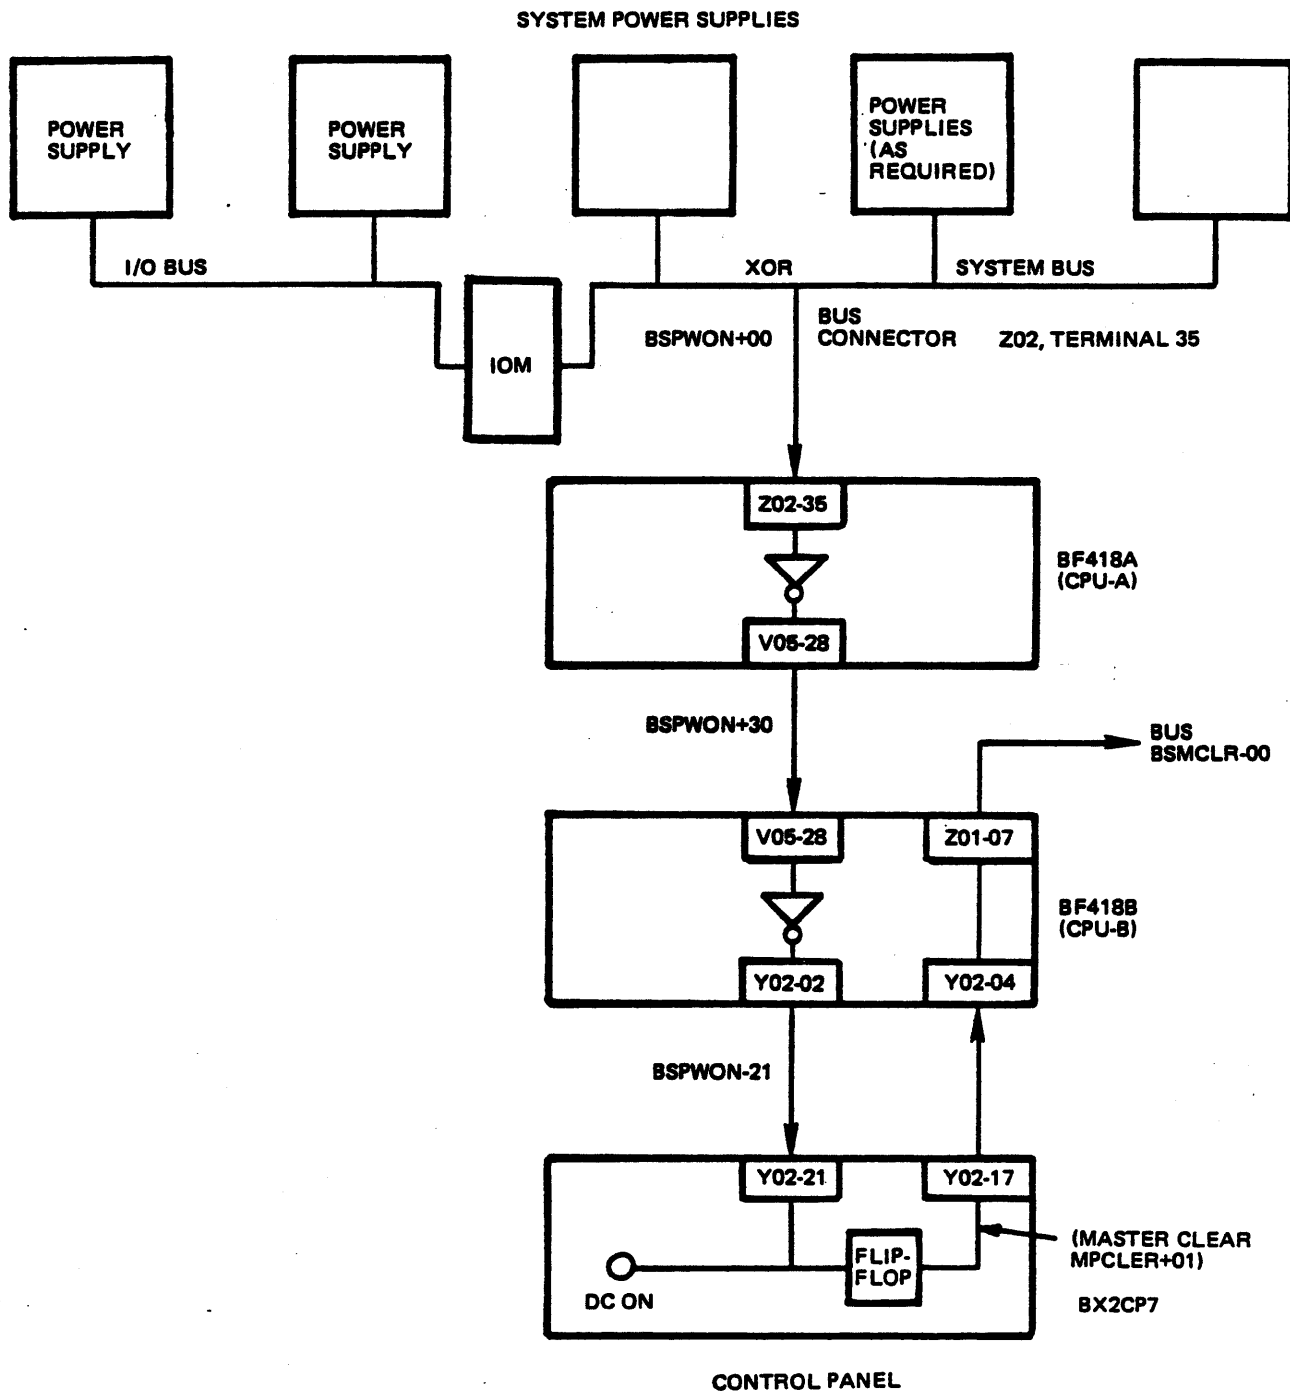
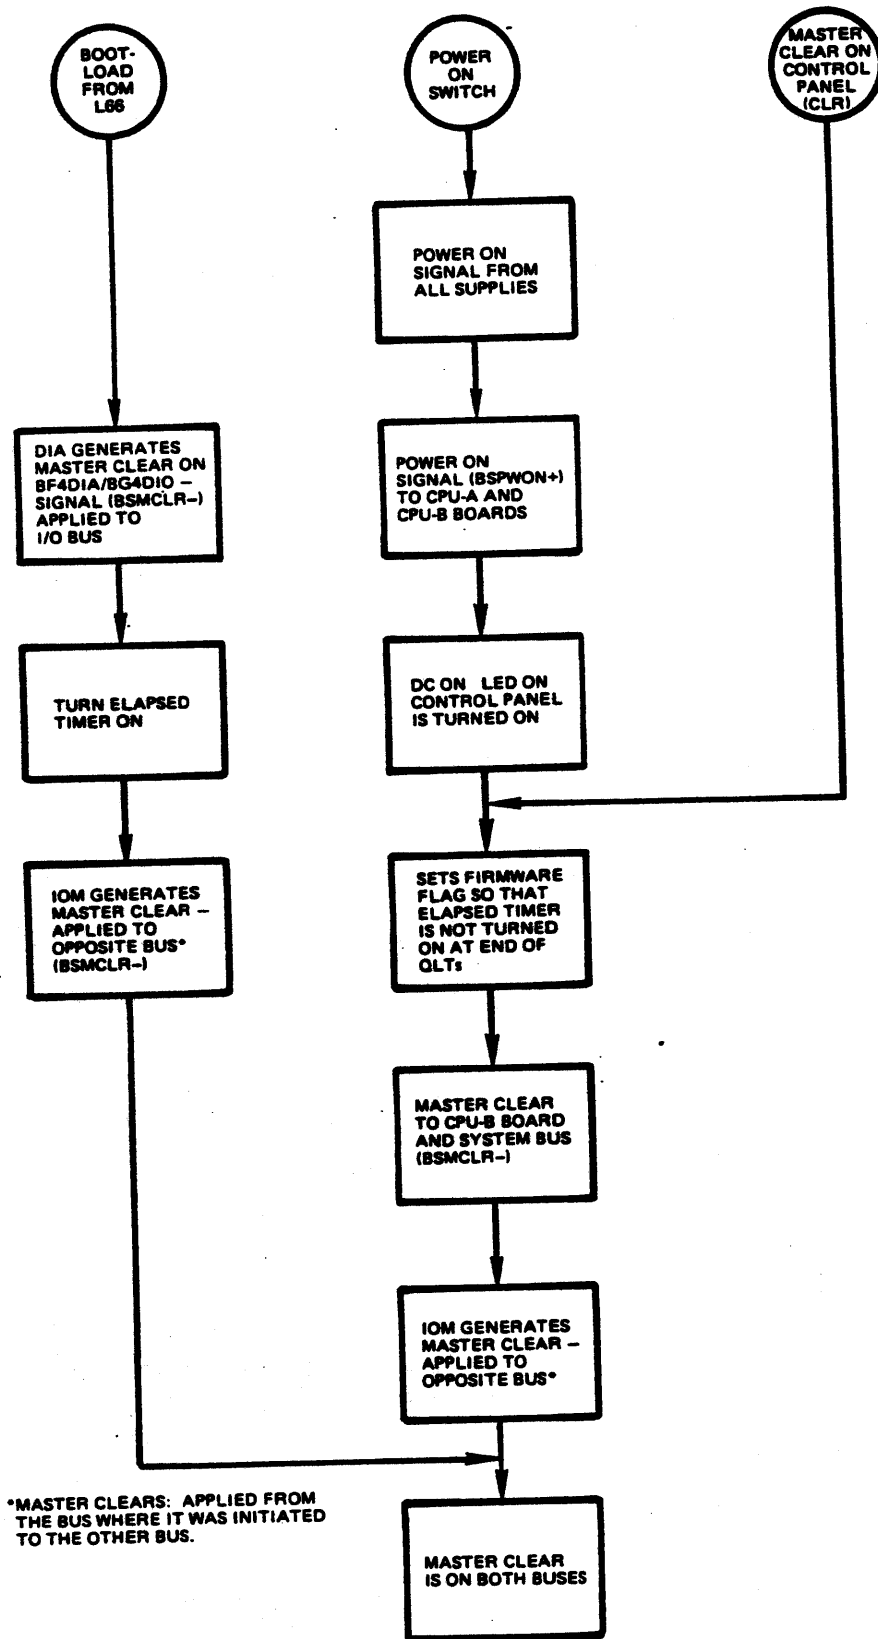

Figure 4-4 Power Valid Signal Flow Chart
Figure 4-5 Master Clear Initiation Flow Chart
4. The Power Valid signal (BSPWON+) is on the bus at connector 202, terminal 35. Figure 4-4 shows the flow of the Power Valid signal from the power supplies to the LED indicator on the operator control panel. The boards, connectors, and terminals are labeled on Figure 4-4.
After the initial fault analysis (subsection 4.1.2), the QLTs must be run. The QLTs are firmware-resident test programs that reside on all the boards in the system, except memory and the DIA. QLTs are initiated on each board by the receipt of a Master Clear signal (BSMCLR-) from the bus. The Master Clear signal can be initiated from the operator control panel via the CLR (Clear) push button, from the host system via the DIA, or from the Power Valid signal (BSPWON+) sent by the system power supplies to the operator control panel (see Figure 4-4). Figure 4-5 is a flow chart that shows the master clear initiation flow.